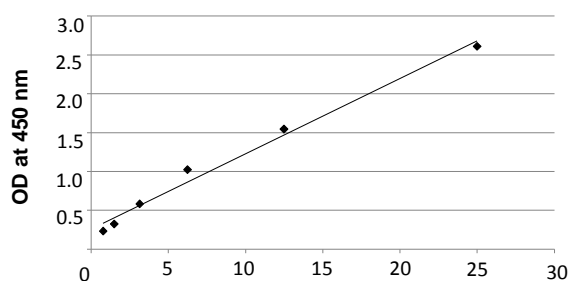
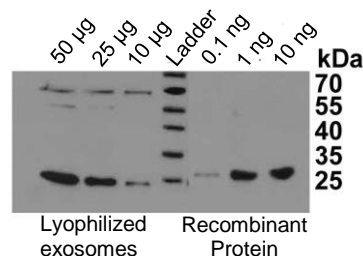

Figure 4. CD9 titration of plasma healthy donor exosome standards.
Figure 5. CD9 marker detection by Western Blotting on lyophilized exosomes from human plasma and the recombinant CD9 protein.
- 10. Sensitivity:** The sensitivity of the kit was compared to Western blot. The data reported in Figure 4 and 5 demonstrate that the sensitivity of the kit is higher than that of Western blotting. Figure 5 shows that 10 µg of lyophilized exosomes is equivalent to 0.1 ng of recombinant exosomal protein (CD9). Since the standard curve's lower concentration is 0.39 µg of lyophilized exosomes (Figure 4), the sensitivity of our test is around 39 pg of protein equivalent.